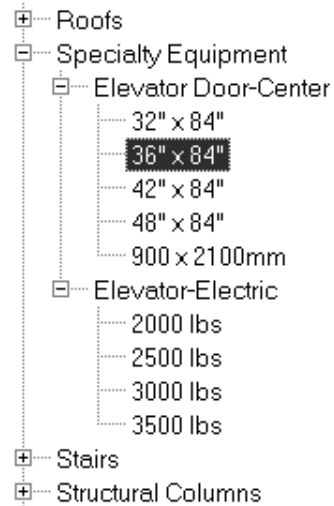

Figure 3-4.8a Elevator doors in Project Browser
22. Drag the **36" x 84"** elevator door type from the project browser into the first floor plan (Figure 3-4.8a).